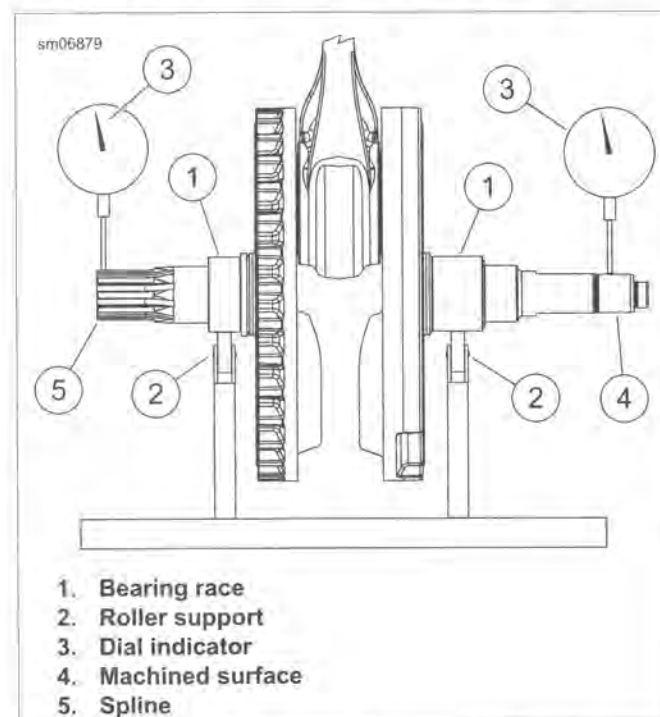

Figure 3-136. Checking Crankshaft Runout
- See Figure 3-136. Mount crankshaft in truing stand so it is supported on the bearing races (1) by the roller supports (2).